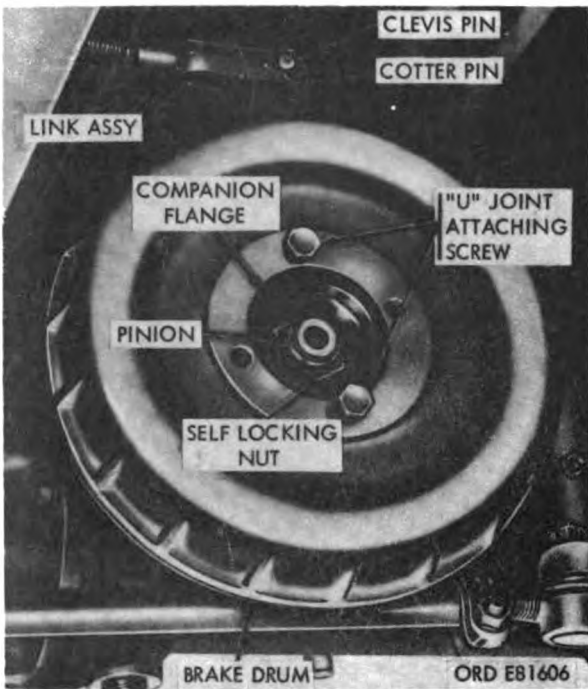

Figure 2-69. Loosening or tightening companion flange nut.
versal joint-attaching screws (fig. 2-69).
- (2) Apply handbrake. Loosen self-locking nut (fig. 2-69) securing companion flange to front axle pinion shaft. Release handbrake.
- (3) Remove two universal joint-attaching screws and remove brakedrum (fig. 2-69).